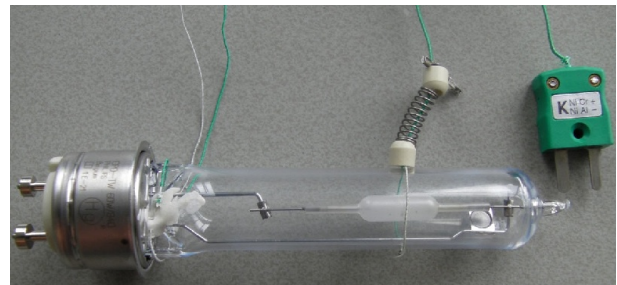

Figure 2.1 Thermocouple connected to bulb and pinch.
- Luminaire ambient temperature: temperature outside the luminaire (see Figure 2.1).